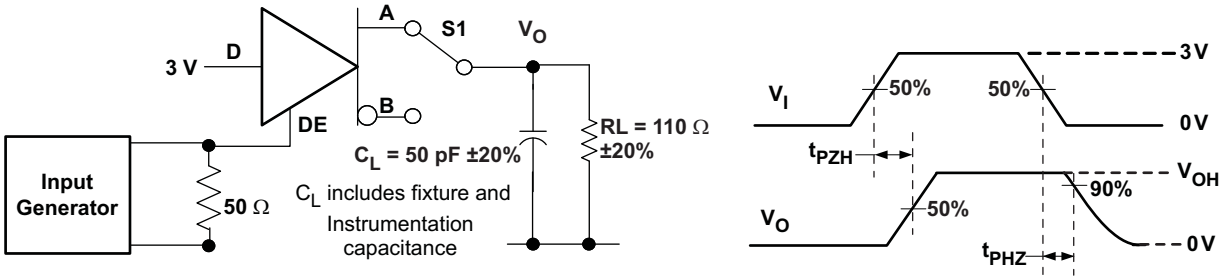
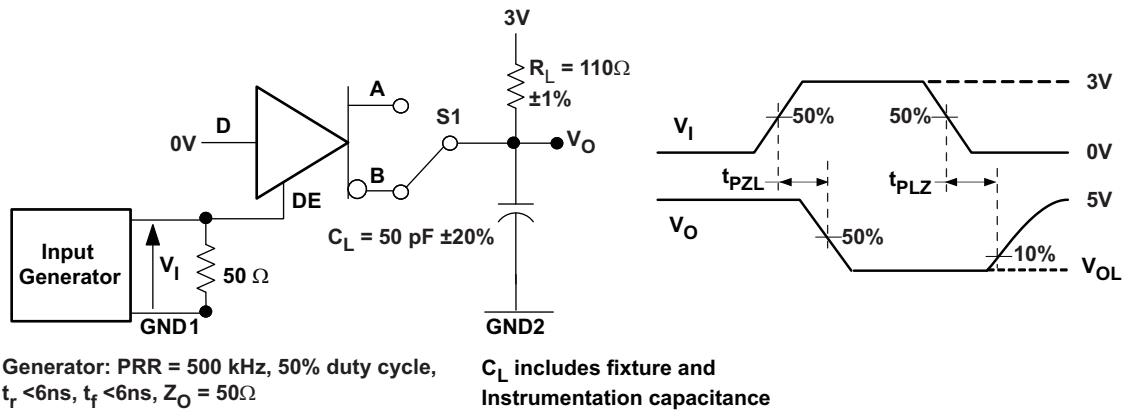

Figure 5. Driver High-Level Output Enable and Disable Time Test Circuit and Voltage Waveforms
Figure 6. Driver Low-Level Output Enable and Disable Time Test Circuit and Voltage Waveform
**NOTE:** Driver output pins are A and B for the ISO15 (See Figure 5 through Figure 6). These correspond to ISO35 pins Y and Z